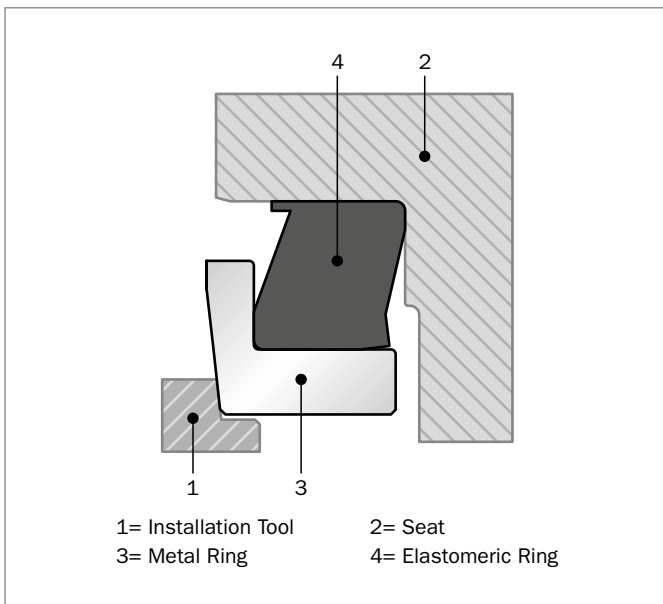

Figure 194: Installation Tool for DF Type
- Assemble each half on the seal into the house using an installation tool (Figure 194). Use a uniform load over the tool to push the half group in to the housing until the elastomeric ring reaches the house bottom. The installation tool has to only touch the inner part of the metal ring close to the Inner Diameter and far from the lapped surfaces. If you have any doubts or suggestions, please contact your local Customer Solution Center.
- Adjust the gap (S) with a slow assembly speed (e.g. 2 mm/sec).